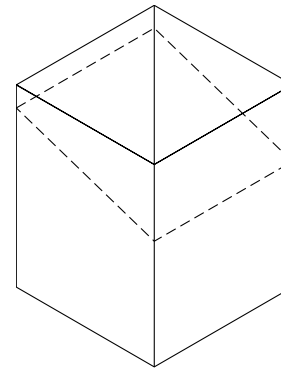

Figure 18
1. Mark a line on the side of the Cathedral Ceiling Support Box to correspond to the line of the roof pitch, as shown in Figure 18. Allow for the Support Box to protrude below the low side of the finished ceiling a minimum of 2 inches.